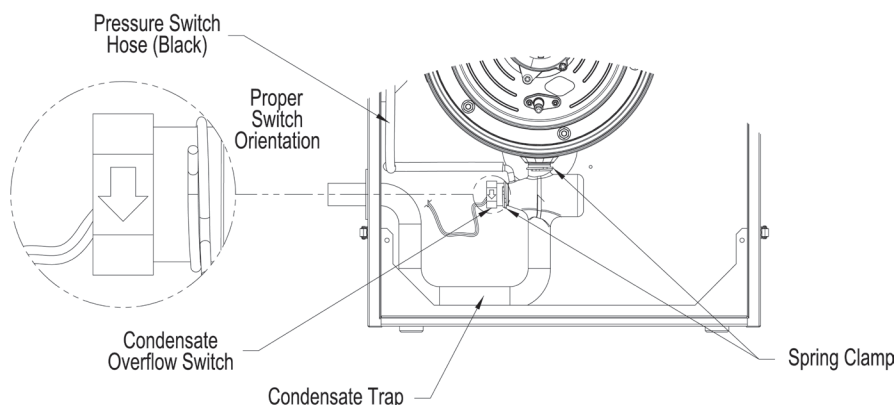

Figure 47: Condensate Overflow Switch Orientation
body making sure it is properly oriented - the arrow molded into the switch hex end side must face down for proper switch operation. See Figure 47 "Condensate Overflow Switch Orientation" for details.
- j. Insure that fresh silicon sealant is applied to the overflow switch threads and the switch is properly oriented relative to the trap body - the arrow molded into the switch hex side end must face down for proper switch operation. See Figure 47 "Condensate Overflow Switch Orientation" for details.